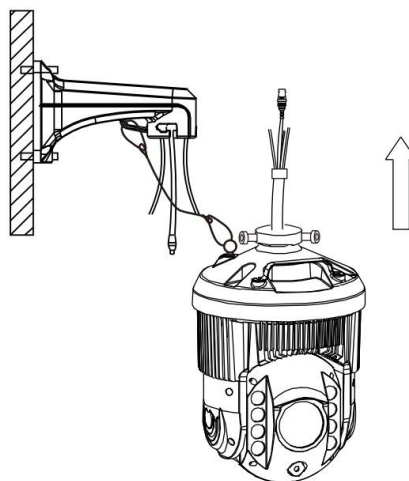

Figure 1-3-4
(5) Buckle the other end of the safety rope into the corresponding hole of the wall-mounted bracket, and then connect the connecting wire in the bracket to the tail wire of the dome camera accordingly. (As shown in Figure 1-3-4)